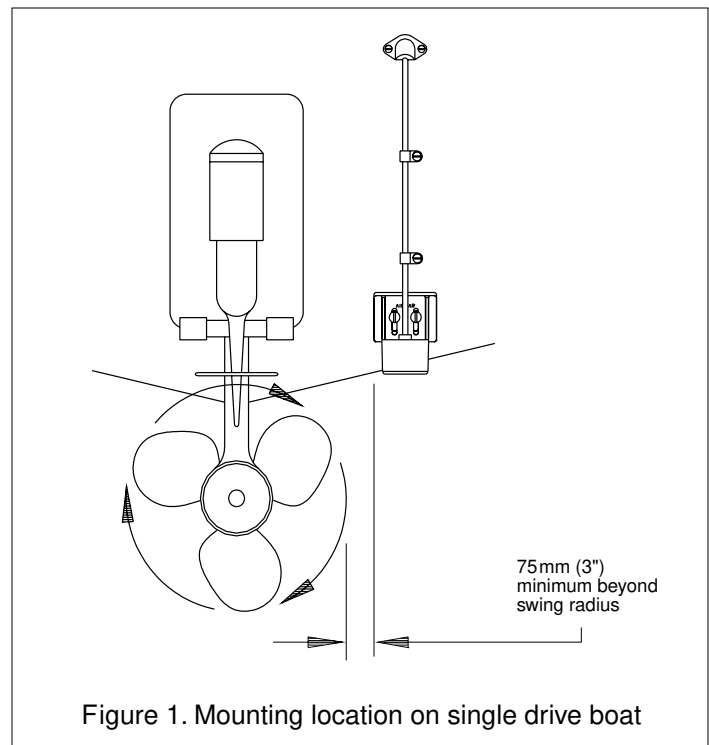
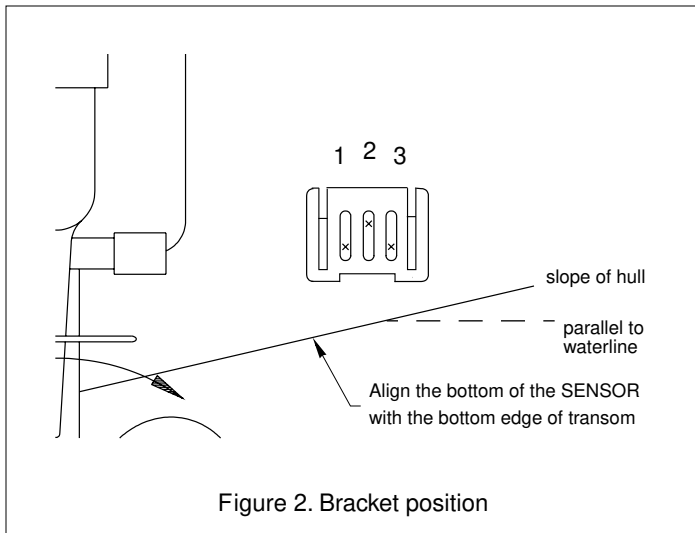

Figure 1. Mounting location on single drive boat
Figure 2. Bracket position
- **Single drive boat**—Mount on the side of the boat where the propeller is moving downward. Mount the sensor at least 75 mm (3") beyond the swing radius of the propeller (see Figure 1).
2. At the selected location, position the bracket and sensor so the bottom of the sensor is even with the bottom edge of the transom (see Figure 1). *Being sure* the bottom of the sensor is parallel to the waterline, lightly trace the outline of the bracket on the boat transom with a pencil (see Figure 2).
4. Holding the bracket in place over the outline you have drawn, lightly trace the three slots. Draw an "X" in each slot to mark the screw hole 6mm (1/4") from the bottom in slots 1 and 3, and 6mm (1/4") from the top in slot 2 (see Figure 2). This will allow you to adjust the bracket up or down. *Do not* mark the screw holes at the extreme ends of the slots.
Using a 4mm, #23, or 9/64" bit, drill a hole 22mm (7/8") deep at the locations marked for the screw holes (see Figure 2). To prevent drilling too deeply, wrap masking tape around the bit 22mm (7/8") from the point.